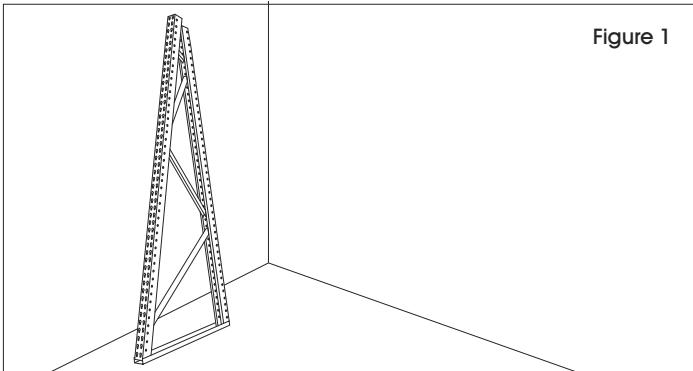

Figure 1
1. Lean one upright against wall or assemble with another person. (See Figure 1)